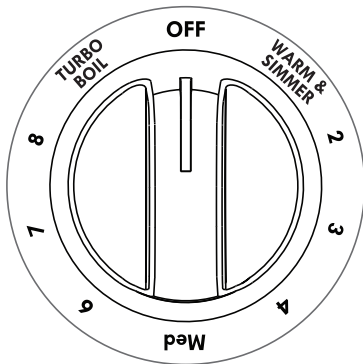

Figure 13: Turbo Boil Flex surface element control knob
2. Push in and turn the Turbo Boil Flex surface element control knob in either direction to the desired setting (Figure 13). Turn the knob to adjust the setting if desired, ranging from WARM & SIMMER to MED to TURBO BOIL.